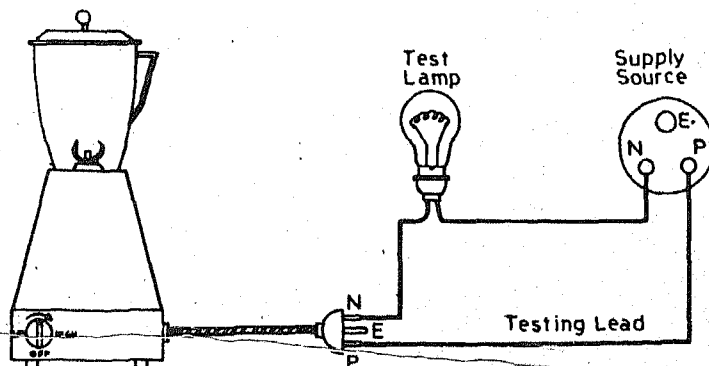

Fig. 31.2 Continuity, Short Circuit, Open Circuit Test between Conductors.
- (xi) Connect test lamp in series with the motor as shown in Fig. 31.2 for continuity test, short circuit test and open circuit test.